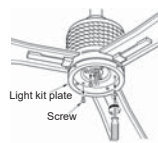

Fig.24
Step 4: Remove the 3 screws from light kit plate (Do not discard) and connect the wires between the fan and LED assembly with the connectors.(Fig. 24&25)